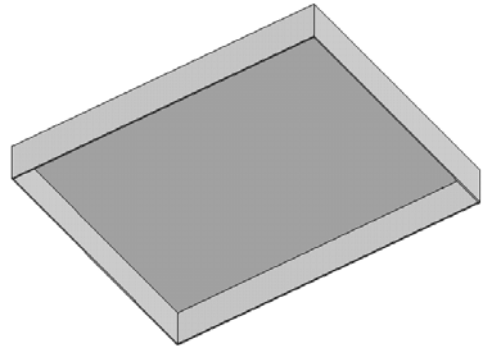

Figure 16-152 Model after shelling
3. Set the value in the **Thickness** spinner to **1** and choose the **OK** button from the **Shell1 PropertyManager**; the shell feature is created, as shown in Figure 16-152.